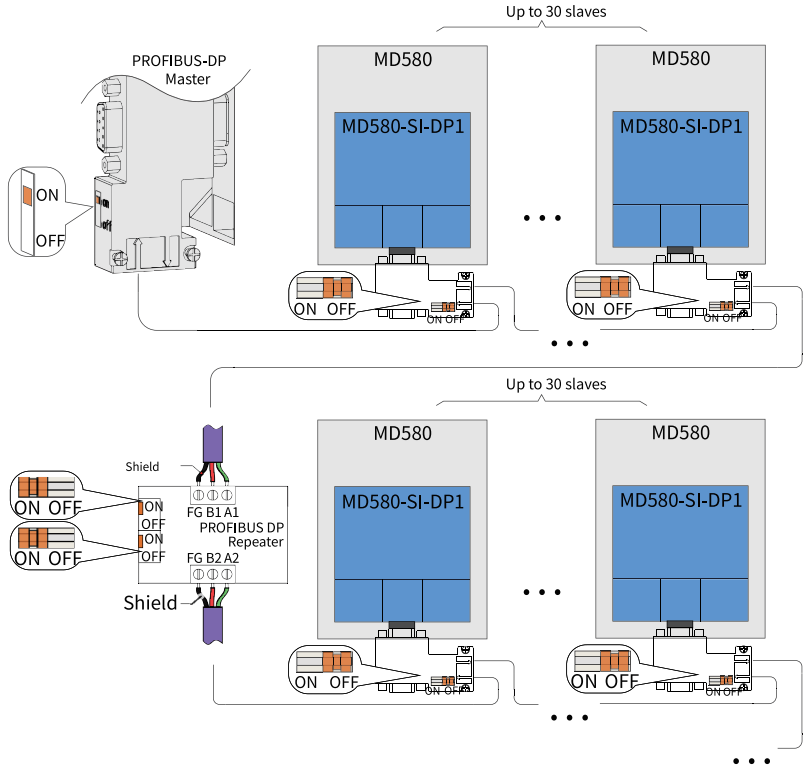

Figure 6-60 Multi-drive system connection with repeaters
- For multi-drive system connection with repeaters, connect termination resistors to the first and last AC drives, and connect the termination resistor of the repeater, as shown in *"Figure 6-60 Multi-drive system connection with repeaters"* on page 132.